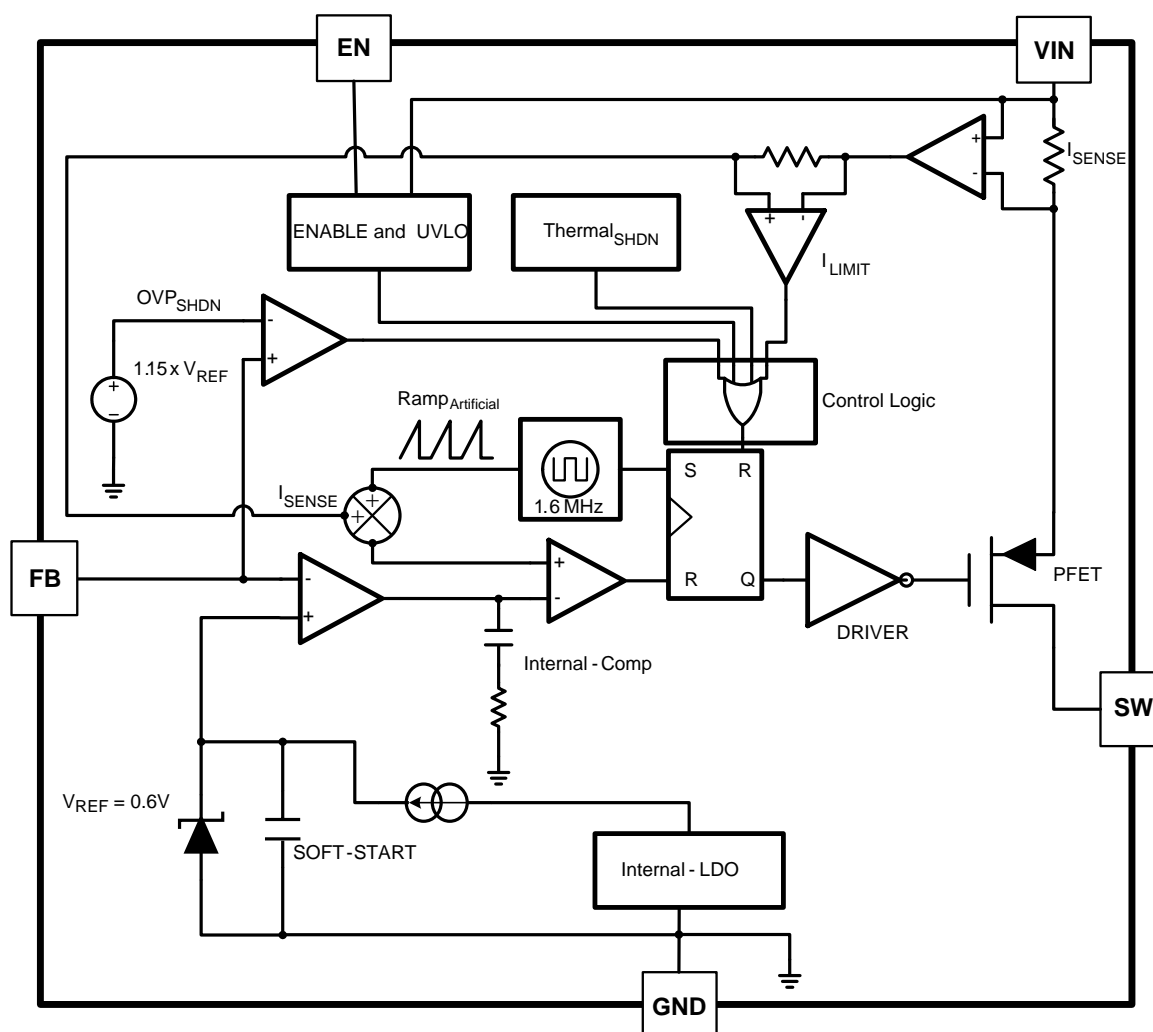
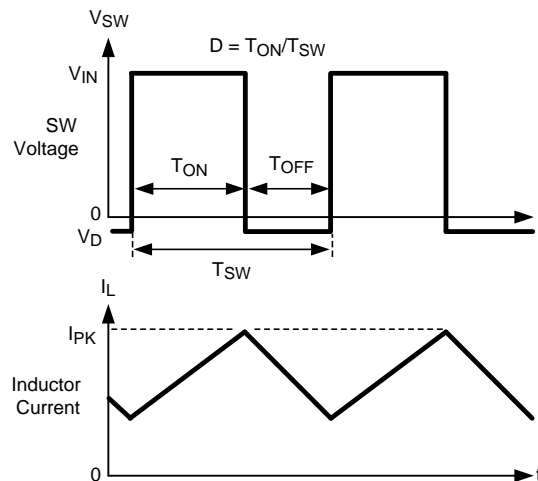

Figure 20.
Figure 21. Typical Waveforms
The LM2830 is a constant frequency PWM buck regulator IC that delivers a 1.0A load current. The regulator has a preset switching frequency of 1.6MHz or 3.0MHz. This high frequency allows the LM2830 to operate with small surface mount capacitors and inductors, resulting in a DC/DC converter that requires a minimum amount of board space. The LM2830 is internally compensated, so it is simple to use and requires few external components. The LM2830 uses current-mode control to regulate the output voltage. The following operating description of the LM2830 will refer to the Simplified Block Diagram (Figure 20) and to the waveforms in Figure 21. The LM2830 supplies a regulated output voltage by switching the internal PMOS control switch at constant frequency and variable duty cycle. A switching cycle begins at the falling edge of the reset pulse generated by the internal oscillator. When this pulse goes low, the output control logic turns on the internal PMOS control switch. During this on-time, the SW pin voltage (V_{SW}) swings up to approximately V_{IN} , and the inductor current (I_L) increases with a linear slope. I_L is measured by the current sense amplifier, which generates an output proportional to the switch current. The sense signal is summed with the regulator's corrective ramp and compared to the error amplifier's output, which is proportional to the difference between the feedback voltage and V_{REF} . When the PWM comparator output goes high, the output switch turns off until the next switching cycle begins. During the switch off-time, inductor current discharges through the Schottky catch diode, which forces the SW pin to swing below ground by the forward voltage (V_D) of the Schottky catch diode. The regulator loop adjusts the duty cycle (D) to maintain a constant output voltage.